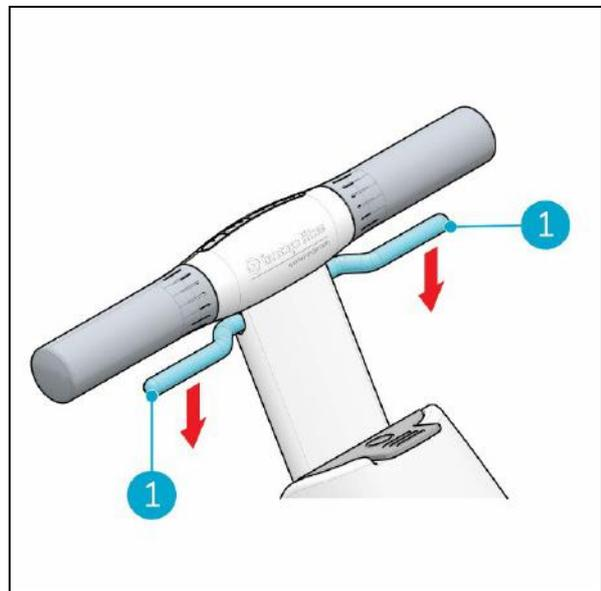

Figure 20
Releasing the trigger (Figure 20, pos 1) will automatically stop the imop Lite.